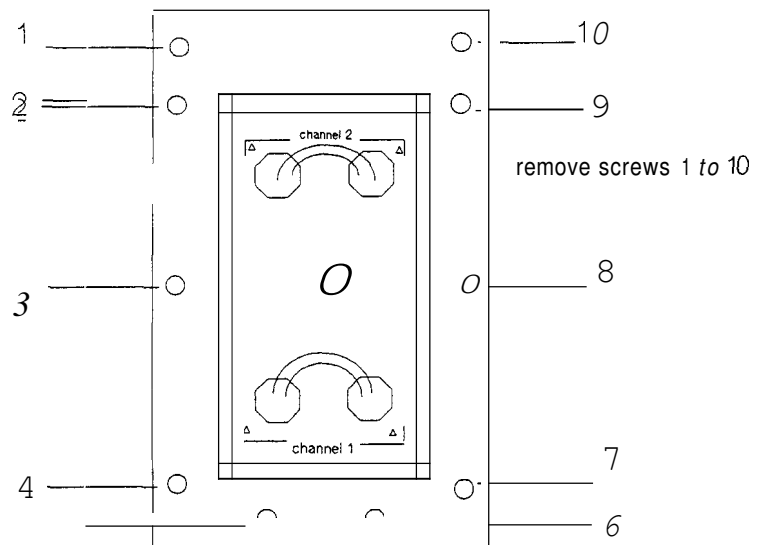

Figure 5-14. Channel block securing screws
- Remove the ten screws which secure the block to the card cage and remove the block, see Figure 5-14.